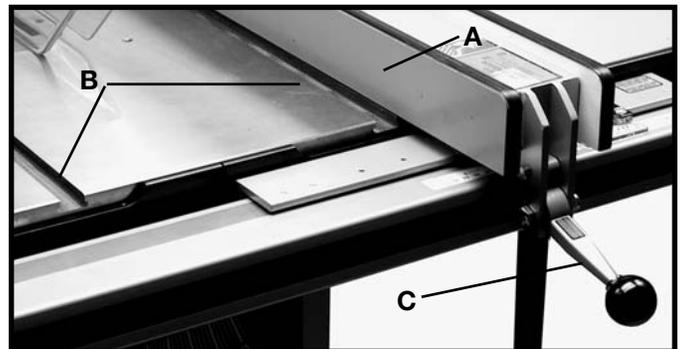
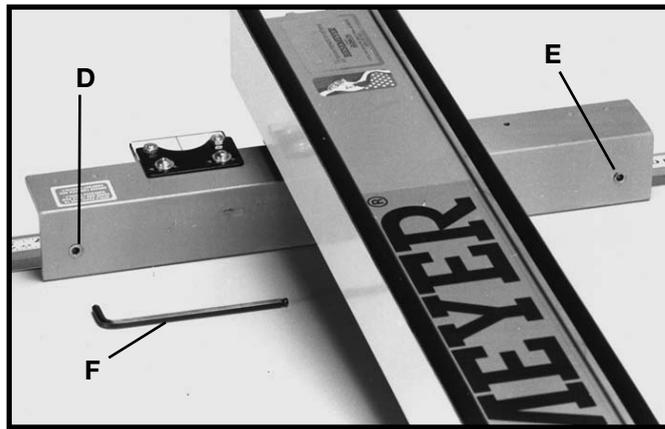

Fig. 145
Fig. 146
Adjust the fence (A) Fig. 145 so that it is parallel to the miter gage slots (B). To check and adjust, move fence (A) until the bottom edge of the fence is in line with the edge of one of the miter gage slots, and push down on the fence clamping lever (C). Check to see if the fence (A) is parallel to the miter gage slot the entire length of the table. If an adjustment must be made, lift up fence locking lever (C) and raise fence up off the guide tube, (Fig. 146). Tighten or loosen one of the two adjusting screws (D) or (E) Fig. 146, using a 3/16" allen wrench (F), not supplied. Replace the fence on the guide tube and check again to see if the edge of the fence is parallel with the miter gage slot along the entire length of the slot. Repeat this adjustment until the fence is parallel with the miter gage slot. **IMPORTANT: VERY LITTLE MOVEMENT OF SCREWS (D) AND (E) IS NECESSARY TO ADJUST THE FENCE PARALLEL WITH THE MITER GAGE SLOT.**